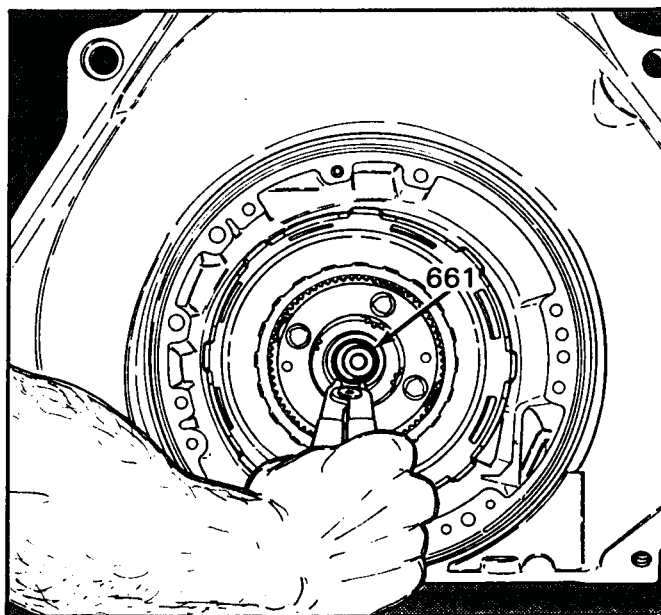

Figure 66
6. Remove the input carrier to output shaft snap ring using snap ring pliers as shown in Figure 66. Use care so as not to over-expand the snap ring.